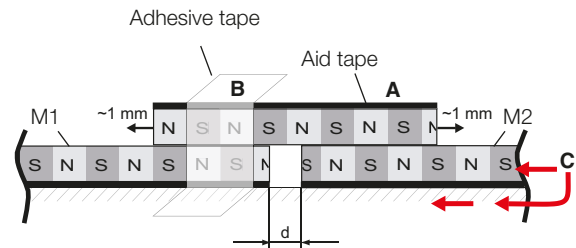

Fig. 4-9: Tape M2 to be attached, underneath the aid tape, $d = 4-10$ mm
3. Turn the aid tape around and place it on tape M1. The aid tape will be engaged by the magnetic forces from the opposite pole (Fig. 4-9). To find the position with the maximum attraction, move the aid tape by approx. 1 mm in both directions until you find the area with the maximum attraction. The aid tape must be fixed in the position using e.g. adhesive tape.
4. Slide the beginning of the second tape M2 under the aid tape until it is near tape M1 and let it engage (Fig. 4-9). Leave enough distance (d) to M1, e.g. 4–10 mm.